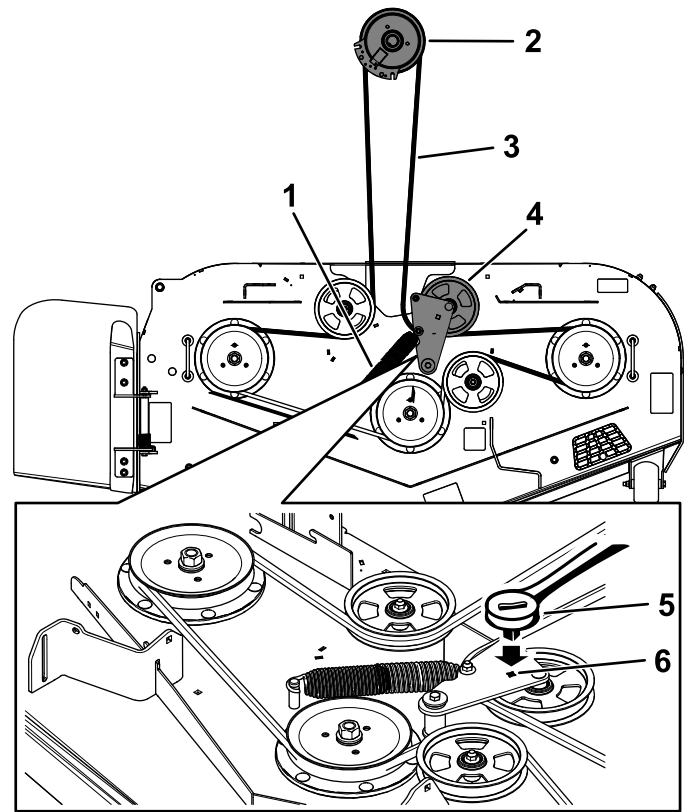

Figure 64
5. Use a 3/8-inch ratchet in the square hole in the idler arm to remove tension on the idler spring (Figure 64).
7. Remove the belt guide on the spring-loaded idler arm (Figure 64).
9. Install the new belt around the mower pulleys and the clutch pulley under the engine (Figure 64).
10. Install the belt guide on the idler arm (Figure 64).
11. Using the 3/8-inch ratchet in the square hole, install the idler spring (Figure 64).